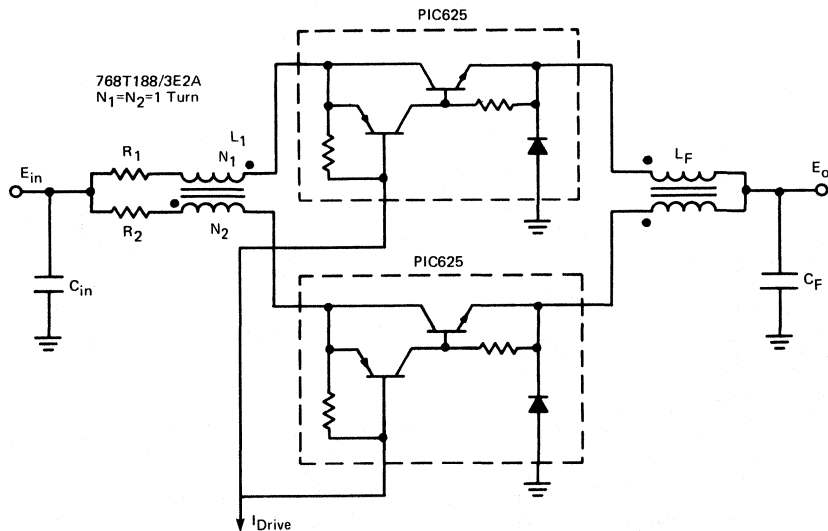

Figure 9. Current Sharing with a Common Mode Choke
The output current capability of a buck regulator can be extended by (1) paralleling the output devices as shown in Figure 9 and (2) the use of a high current device as shown in Figure 10.
The advantages of paralleling output devices are that it allows the device to operate with a relatively simple drive circuit and provides simplicity of heat sinking. On the other hand, proper current sharing during the on-time period and turn-off time is required. The circuit shown in Figure 9 provides the circuit technique to do just that. The only drawback is that it requires a dead-band period which must be greater than $0.1L$, where L is the inductance value of the common mode choke L_1 .